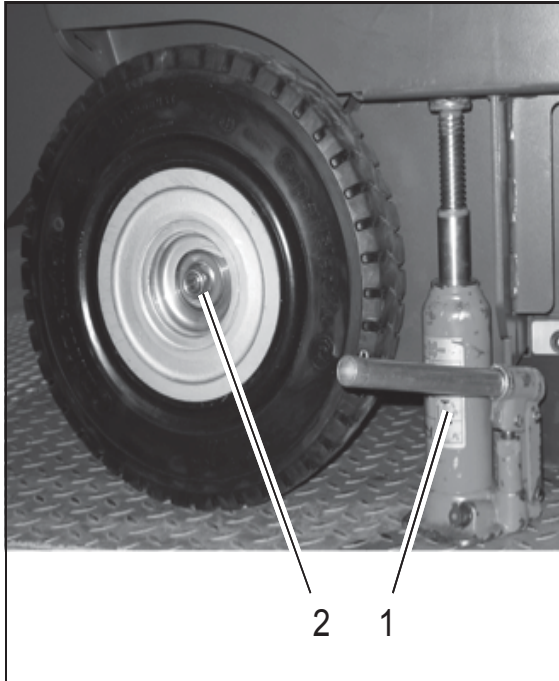

Fig.30
3. Bring the jack (Fig. 30/1) into position under the frame.